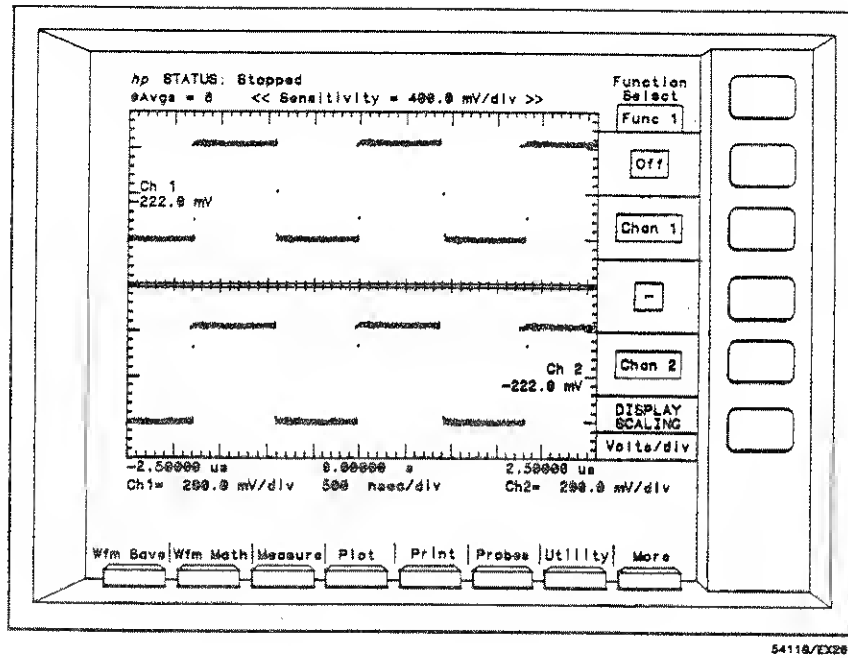

Figure 7-25. Selecting Func 1.
4. Insure Func 1 (function 1) is the selected function (see figure 7-25).